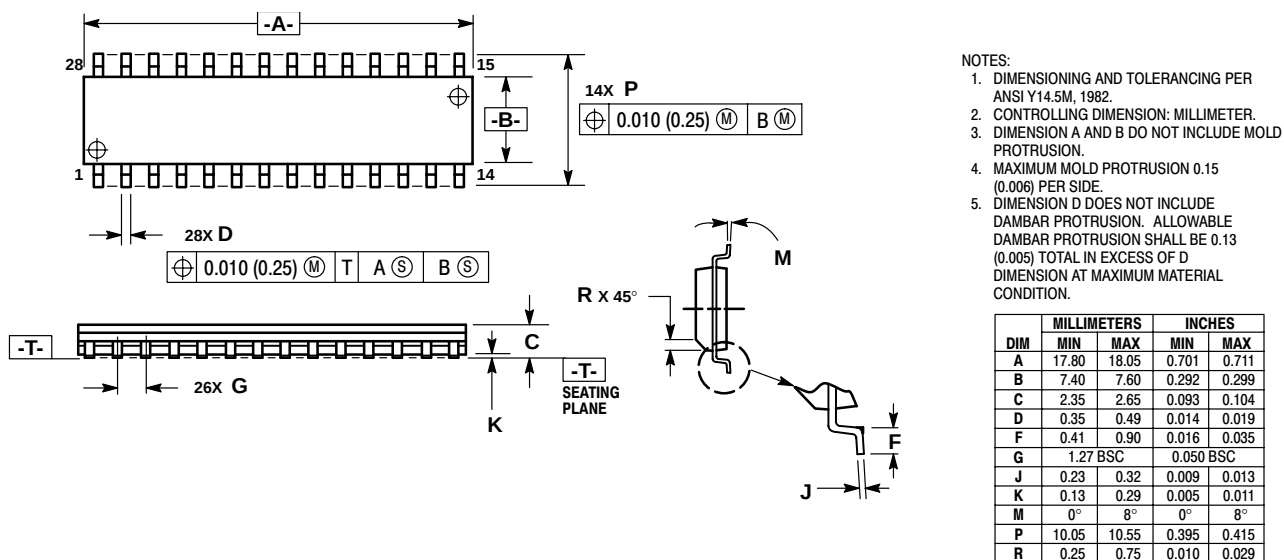

Figure 21. Plastic 28-Pin SOIC (Case 751F)
- Plastic 28-pin SOIC, Figure 21